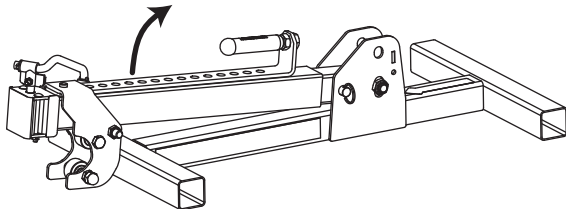

Figure 2.
4. Place reel stands in lifting configuration by removing the pin and pivoting the jack upward. Then insert the pin through the upper sockets. (Fig. 2)